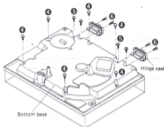

Fig. 2
2. Remove the 4 setscrews (Fig. 2: ⑤) of the hinge case bracket.
3. Remove the 4 setscrews (Fig. 2: ⑥) of the hinge case.